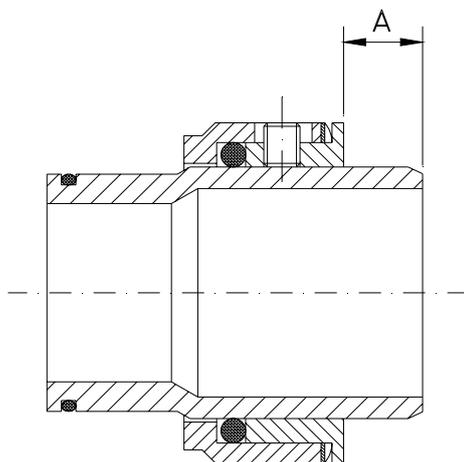
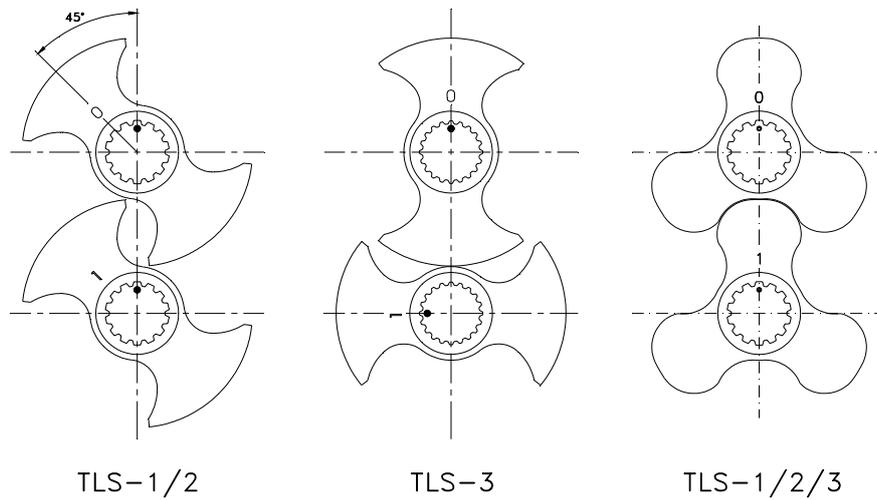

**Figure 8.1:** Wrench
Figure 8.3
- Remove the lobe screws (25) using a wrench, as shown in figure 8.1. These screws are threaded to the right. Wooden or nylon blocks can be placed between the lobes to stop them from rotation (blocks position: one to the left in front of the top lobe screw and the other to the right in front of the lower lobe screw).
- Check that the O-ring (80) is still in good condition.
- Slide the lobes onto the shafts as far as the shaft sleeve. Observe the markings (0 - 1 and ●); see figure 8.3.
- Check that the O-rings (80) of the lobe screws (25) are still in a good condition and that they are correctly positioned in the groove.
- Fit the lobes with the screws (25) and the washers (35). Tighten the screws with a wrench as shown in figure 8.1. A wooden or nylon block can be placed between the lobes to avoid that they rotate simultaneously.
- Slide the lobes onto the shafts as shown in figure 8.3. Press the lobes against the shaft sleeve.